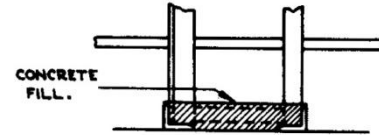

FIG. 5. CEMENT FILL BETWEEN
- (iii) In earlier types of frames, the space between the base angles only was filled with cement. See Fig. 5.